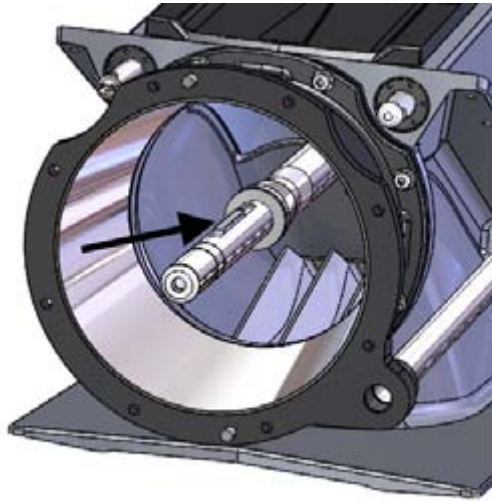

Figure 49. Keyway
6. Once you have found the right adjuster sleeve length, place the key in the shaft keyway (figure 49) and push the impeller on to the shaft against the adjuster sleeve.